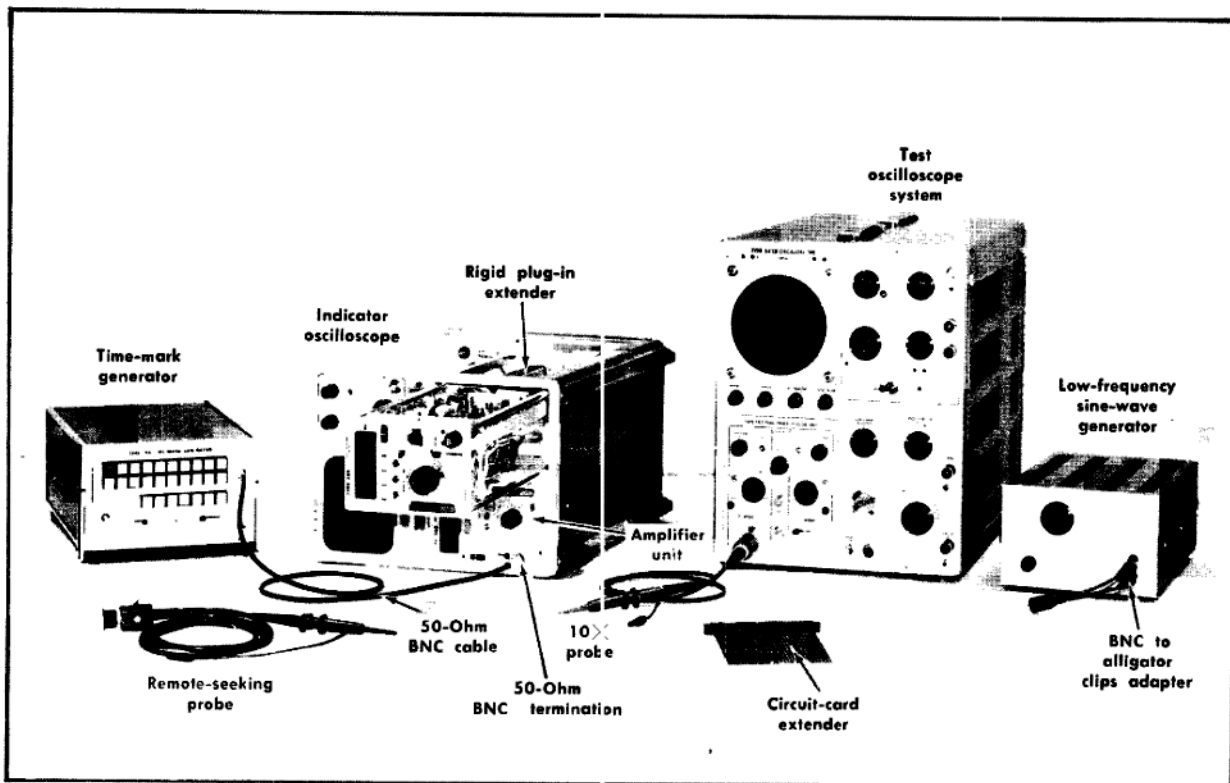

Fig. 6-23. Initial test equipment setup for steps 22—30.
- a. Test equipment setup is shown in Fig. 6-23.